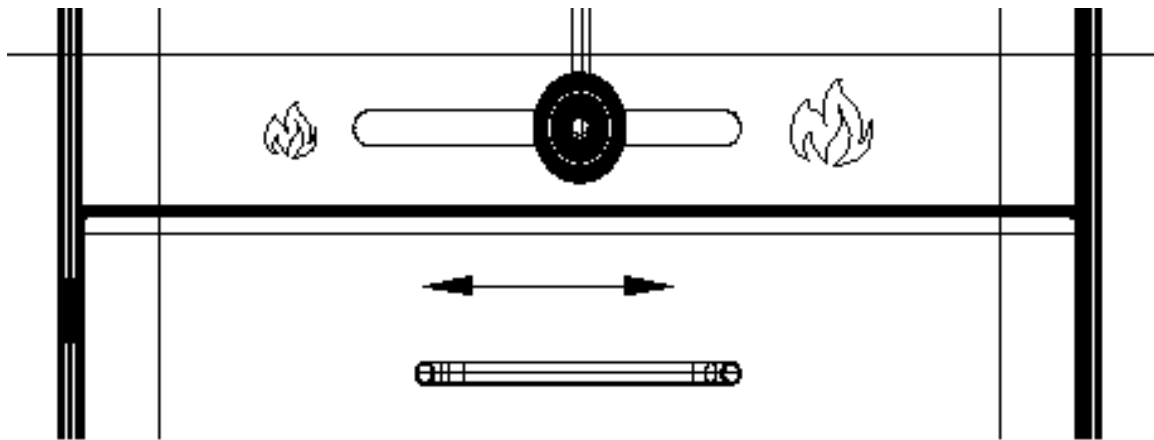

Figure 2.1
4. Open the draft control fully to the right (located on the front of the stove, Figure 2.1)
Open the draft control (located on the front of the stove) fully by moving it from the left to the right, as shown in Figure 2.1 and as indicated on the ash shelf trim.
Closing the draft control down too soon will hurt combustion efficiency, and result in creosote build-up in the chimney (which could lead to a future chimney fire). Figure 2.1 Draft control